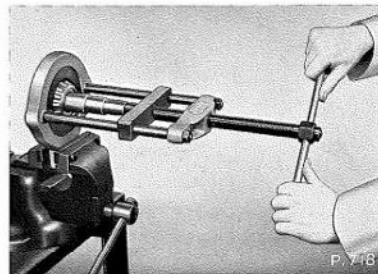

Fig. G.8. Withdrawing the inner bearing cone from the bevel pinion, using the Churchill Tool R.G.4221B and the adaptor set R.G.4221B-22
5. To remove the cone of the inner bearing from the bevel pinion shaft, employ Churchill Main Tool R.G.4221B and the Adaptor Set R.G.4221B-22 (see Fig. G.8). Alternatively the bearing may also be removed by applying a drift between the teeth of the pinion and tap alternately on opposite sides of the cone taking care not to damage the bearing cage.